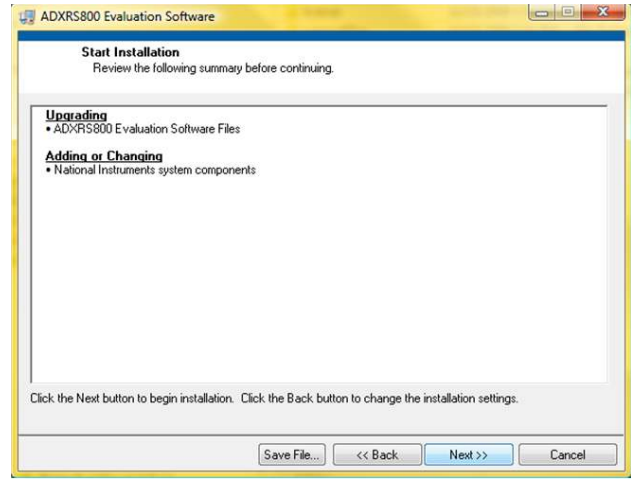

Figure 13. Start Installation (Listing Varies Based on PC Requirements)
3. Read the license agreement before accepting it; then, click **Next**. The installer lists the required components to install on your PC (see Figure 13).